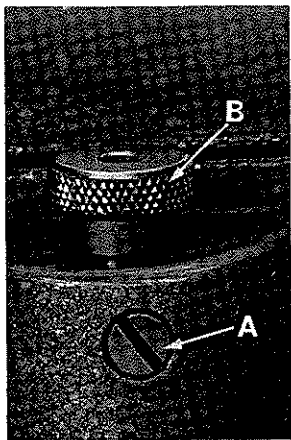
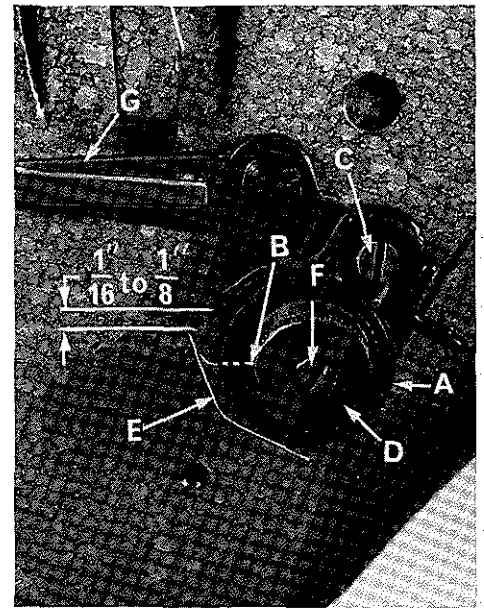
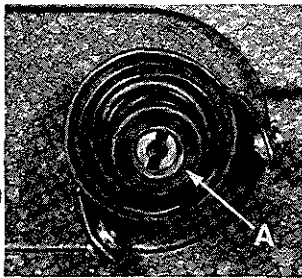

Fig. 12
Fig. 19
Fig. 20
Fig. 12 illustrates the stitch regulator. For timing the hooks, it is recommended the regulator be turned to produce shortest stitch length. To do this, loosen lock screw (A) and turn the stitch regulator (B) counterclockwise as far as possible. Lock in position by tightening lock screw (A).
The take-up spring barrel (A, Fig. 19), which controls the needle thread should be set so that the lower spring stop is at the 9 o'clock position as shown (B, Fig. 19). Loosen screw (C) and turn barrel (A) immediately behind locknut (D) to make this adjustment. This recommended position for the barrel should be approximately correct for first sewing trials. Ultimately, the take-up spring barrel should be adjusted so that there is about  $\frac{1}{16}$  to  $\frac{1}{8}$  inch movement of the check spring (E) as the needle thread passes around the 6 o'clock position of the hook.
Set the front frame needle thread eyelet (G, Fig. 19) in its lowest position parallel with the cloth plate.
By sewing trials, adjust the needle thread tension (A, Fig. 20), check spring pressure, position barrel (A, Fig. 19) and set the stitch length (B, Fig. 12) to required specifications.